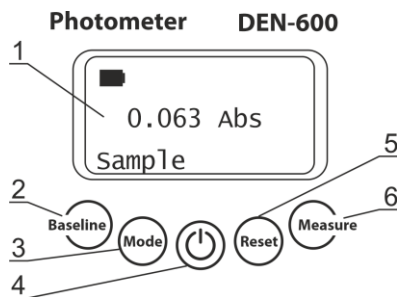
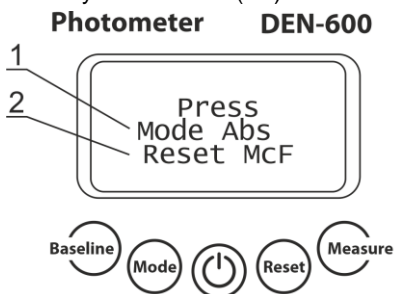

Figure 1. Control panel
Figure 2. Measurement mode selection.
5.1 Connect the external power supply to electric circuit. Switch on the unit using the green **Power** key (fig. 1/4) on the control panel.
5.2 The following indication may be shown on the display (fig. 1/1):
- Two measurement modes for operation are available – McFarland (McF) and Abs (Absorbance) see Figure 2 and **5.3**.
5.3 **Measurement mode selection (Figure 2).** Select measurement units by pressing **Reset** key for McF (fig. 1/5) and **Mode** key for Abs (fig. 1/3).
5.4 **Baseline calibration.** Unit requires initial baseline (only in Abs mode), e.g., depending on the reaction vessel or suspension colour. Insert the reaction vessel with or without suspension into the unit and press the **Baseline** key (fig. 1/2).
- 5.5 **Choosing mode of operation.** Press the **Mode** key (fig. 1/3) to circle through available operation modes, **Sample**, **Save** and **Read**.
- 5.5.1 **Sample** mode - measurement without saving the results. Place the sample in the unit and press the **Measure** key (fig. 1/6). Display shows the measurement result.
- If the calibration was successful, display shows “OK!” before returning to default screen (figure 1).